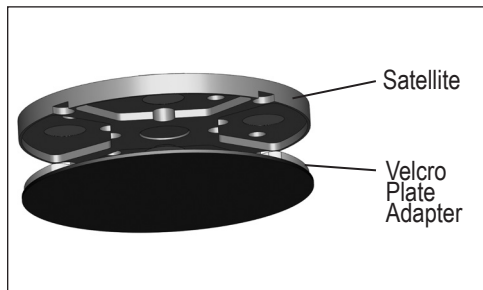
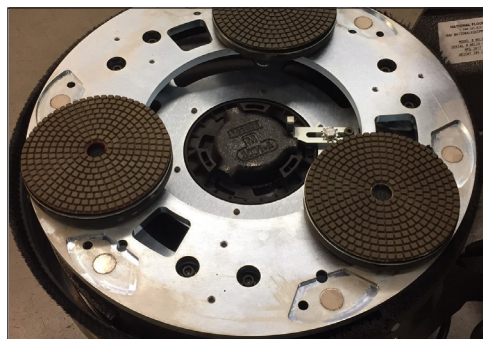

FIG. 13
FIG. 14
- Install each satellite by sliding the shaft through the bearing and inserting the cotter pin through the shaft (see Tooling Assembly diagram in machine service manual for further instruction). Figure 14 shows satellites installed.
The Velcro plate adaptor (P/N 9245) attaches magnetically to the satellite and snaps into place (Figure 13). Brazed diamond and polishing pads are attached to the Velcro plate adaptors (Figure 14).